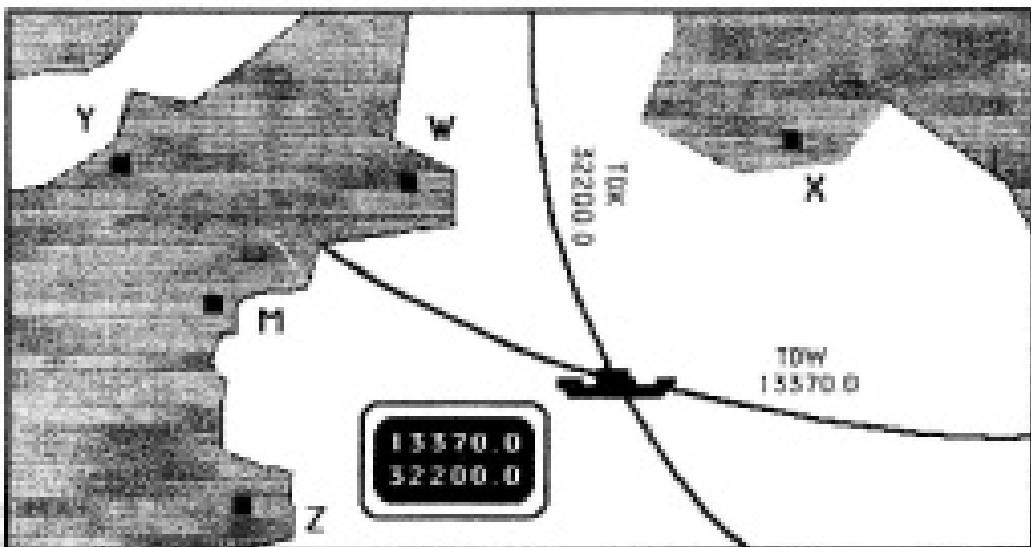

Figure 4 Sample Plots
In Figure 4, the MASTER (M) and two secondaries, W, and X, are used as an example. The MASTER (M) station transmits synchronized Loran C pulses at precise time intervals. The receiver, located aboard ship, synchronizes on these pulses. At precise time intervals--after the MASTER station transmission--both Secondary stations, W and X, transmit synchronized pulses in timed sequence. The shipboard receiver measures the slight TD's required for each of the pulses to reach the observation point from each transmitter location. The receiver then presents each of the TD's on its display readout.